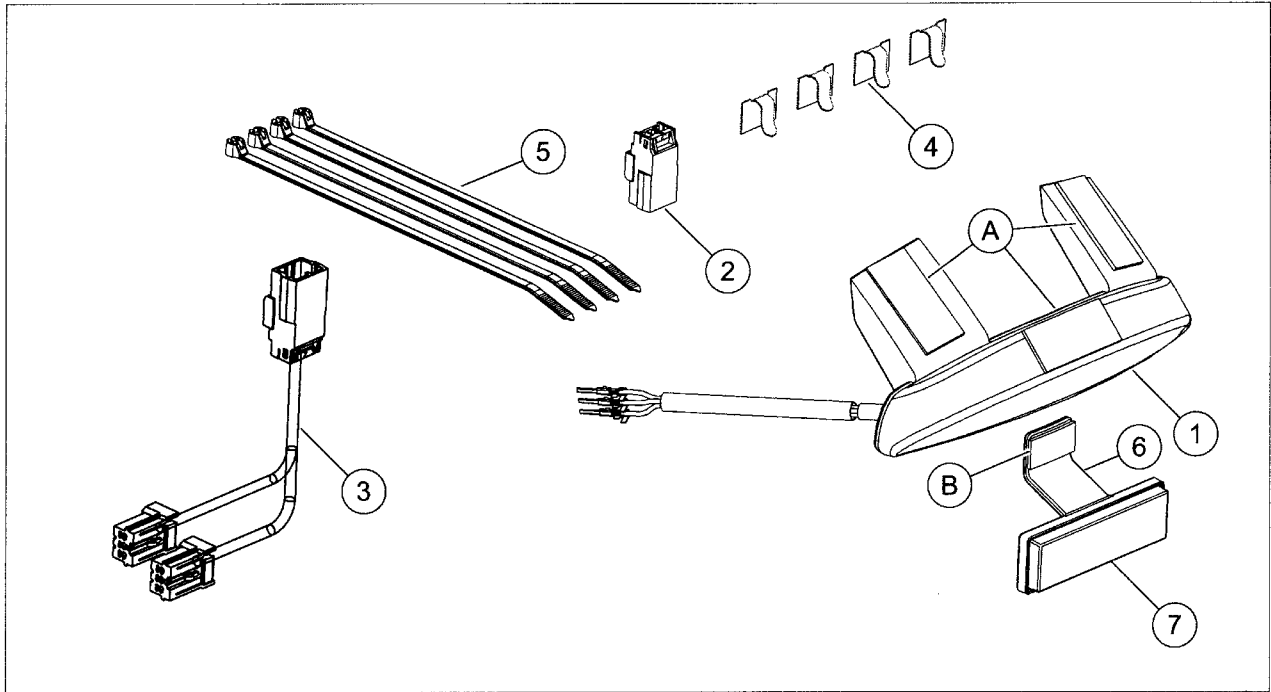

Figure 3. Service Parts: Fender Edge Light Kit
See Figure 3 and Table 1.
- See Figure 3. Remove the protective liner (A) from the three adhesive pads on the fender edge light (1).
- See Figure 3. Insert the wires and terminals from the light assembly harness into the pin housing (2) from the kit:
- Secure the interconnect harness in the seat pan area as necessary with cable straps (5).